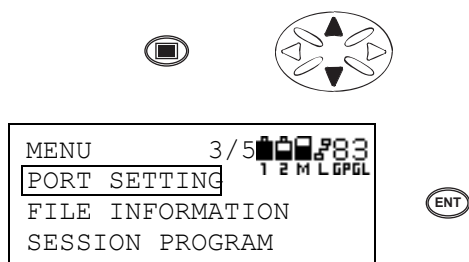

Figure 3-89. Initiate Menu Mode, Scroll to Port Setting, and Press Enter
1. Press the **menu** key to enter the menu mode. Press the **up/down cursor key** to select PORT SETTING and press **ENT** (Figure 3-89).